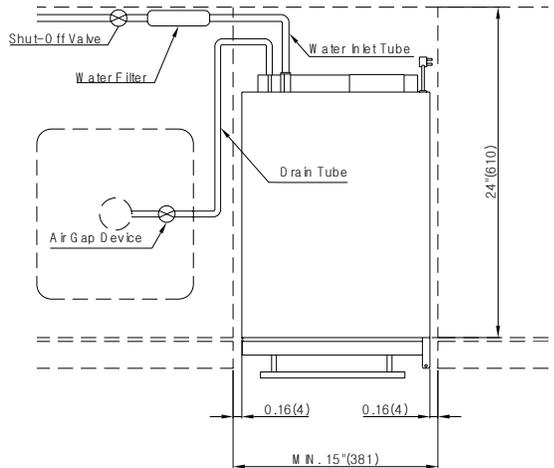

Fig. 6 Top View
**Important Information!** An air gap may be required between the drain tube of the ice maker and the container of the drain pipe under the provision of local laws and regulations. Refer to Fig. 6.